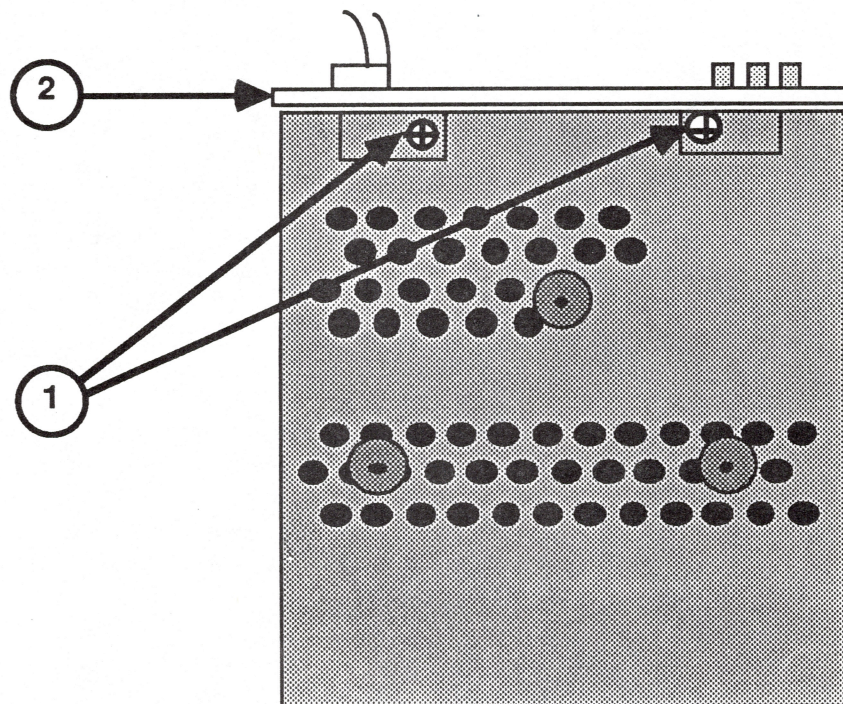

FIGURE 18
8. Remove the two screws (Figure 18, #1) from the bottom of the metal frame.
9. Pull the rear panel (Figure 18, #2), along with the AC cord and power supply board, away from the monitor.
3. Replace the two screws (Figure 18, #1) to secure the rear panel to the bottom of the metal chassis.